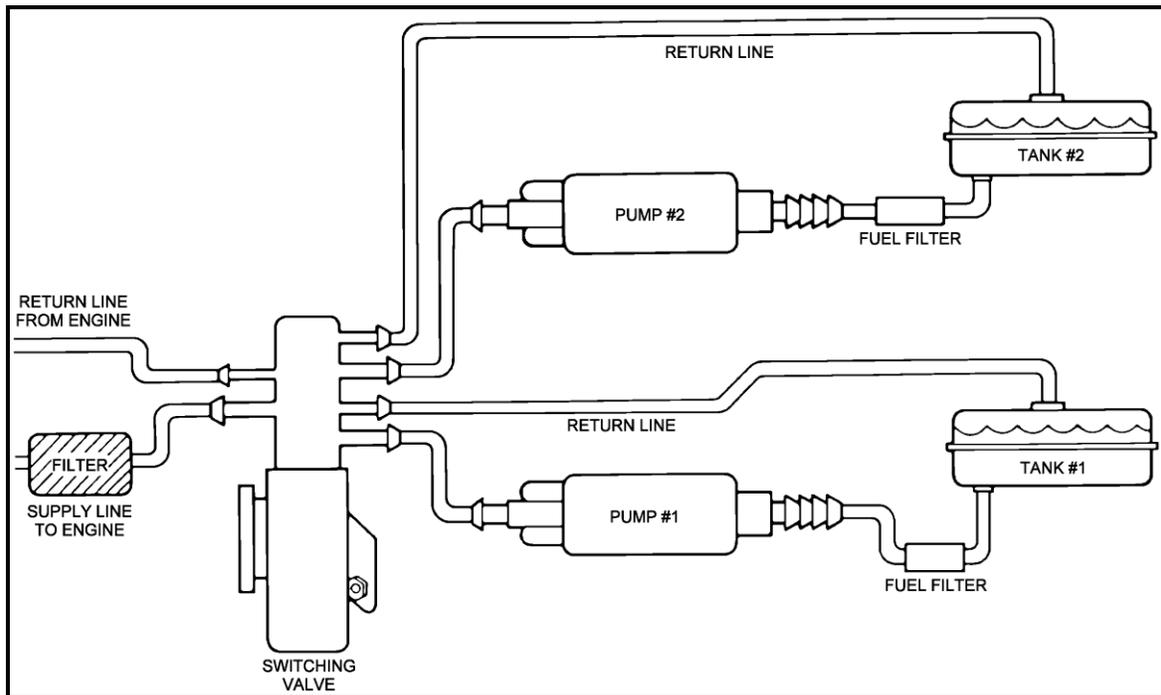

Figure 7
1. Mount the selection valve in a protected location close to the existing fuel lines and near the fuel tanks. Position the valve so the side with the four hose nipples points toward the fuel tanks. Mount the fuel pumps along the fuel supply lines and next to each fuel tank. Fuel filters (Holley Part Number 562-3) **MUST** be located between each tank and pump. Make sure pump inlets point toward the tanks. (See Figure 7).